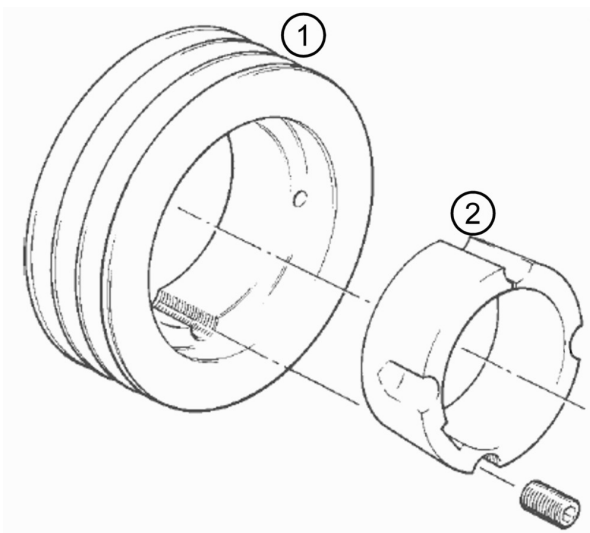

Figure 2
Either a 5" 'A' section pulley with three grooves (figure 2 item 1) and a taper lock (figure 2 item 2).